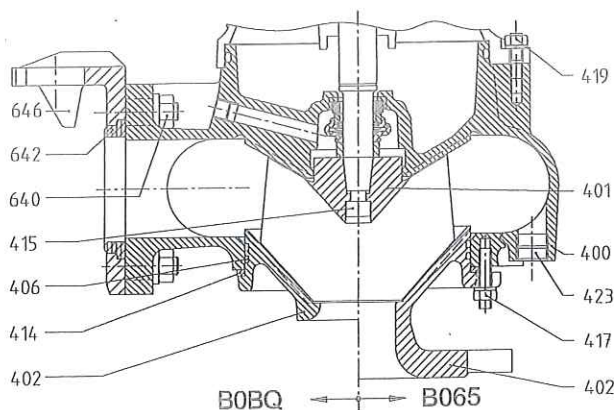

Fig. 6:
3.4.3 ASSEMBLY OF SUCTION COVER FOR "NON-REGULABLE" PUMPS (Fig. 6 + 7)
3.3.4 REMOVAL OF SUCTION COVER FOR "NON-REGULABLE" PUMPS (Fig. 6 + 7)
2.6.5.2 FOR VERTICAL MOUNTED PUMPS (Fig. 6)